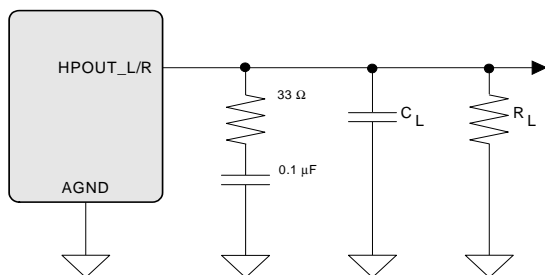

Figure 3. Output Test Load, Headphone Out
(Test conditions (unless otherwise specified): Input test signal is a full-scale 997 Hz sine wave; $V_D = 1.8\text{ V}$; $V_{L_HD} = V_{L_IF} = 3.3\text{ V}$; $T_A = +25^\circ\text{C}$; Measurement bandwidth is 10 Hz to 20 kHz; test load $R_L = 10\text{ k}\Omega$, $C_L = 10\text{ pF}$ for the line output and test load $R_L = 16\text{ }\Omega$, $C_L = 10\text{ pF}$ for the headphone output (see Figure 3); DAC Gain = 0 dB).
10. See Figure 3. R_L and C_L reflect the recommended minimum resistance and maximum capacitance required for the internal op-amp's stability and signal integrity.
(Test conditions (unless otherwise specified): Input test signal is a full-scale 997 Hz sine wave; $V_D = 1.8\text{ V}$; $V_{L_HD} = V_{L_IF} = 3.3\text{ V}$; $T_A = -40$ to $+85^\circ\text{C}$; Measurement bandwidth is 10 Hz to 20 kHz; test load $R_L = 10\text{ k}\Omega$, $C_L = 10\text{ pF}$ for the line output and test load $R_L = 16\text{ }\Omega$, $C_L = 10\text{ pF}$ for the headphone output (see Figure 3); DAC Gain = 0 dB).
12. See Figure 3. R_L and C_L reflect the recommended minimum resistance and maximum capacitance required for the internal op-amp's stability and signal integrity.